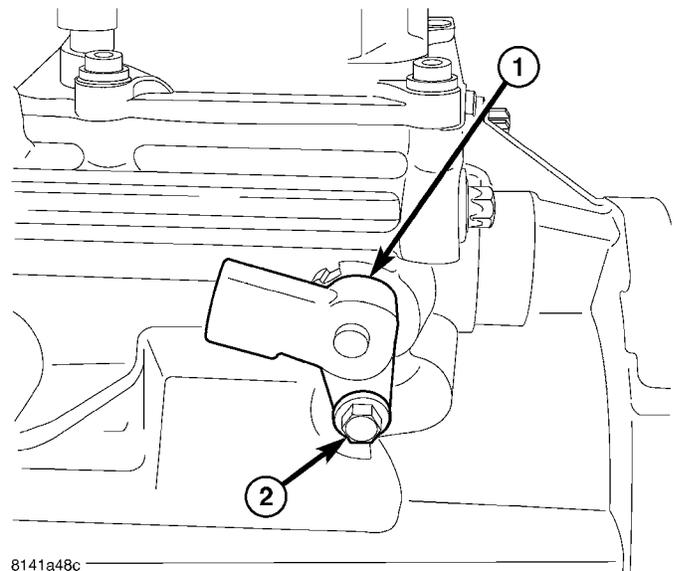

Fig. 117 BACK-UP LAMP SWITCH
(22) Install back up lamp switch (1) and bolt (2) (Fig. 117).